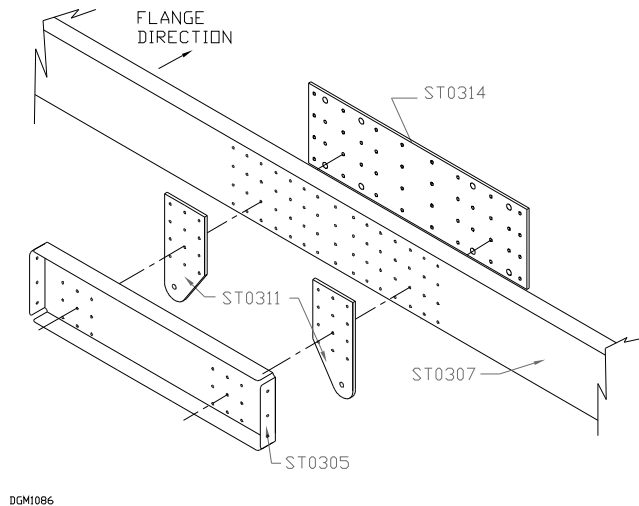

Figure 2.5.1
1. Cleco the Front Center Doubler [ST0305], the two Forward Attach Brackets [ST0311] and Main Spar Tripler [ST0314] to the Main Spar [ST0307] orientated as shown in Figure 2.5.1.